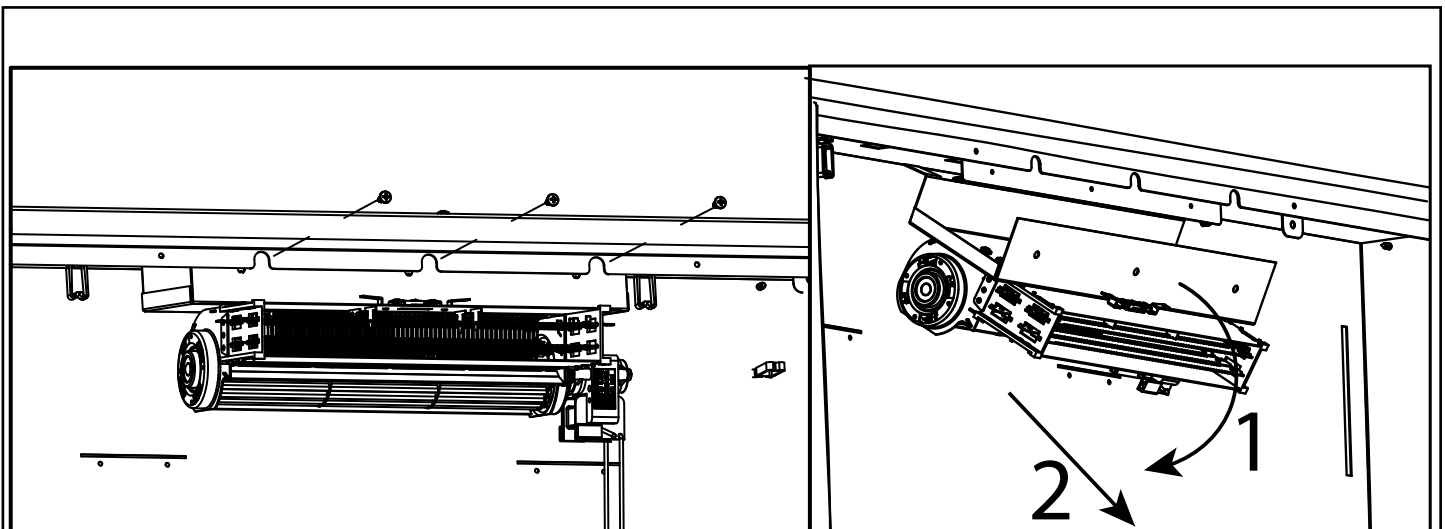
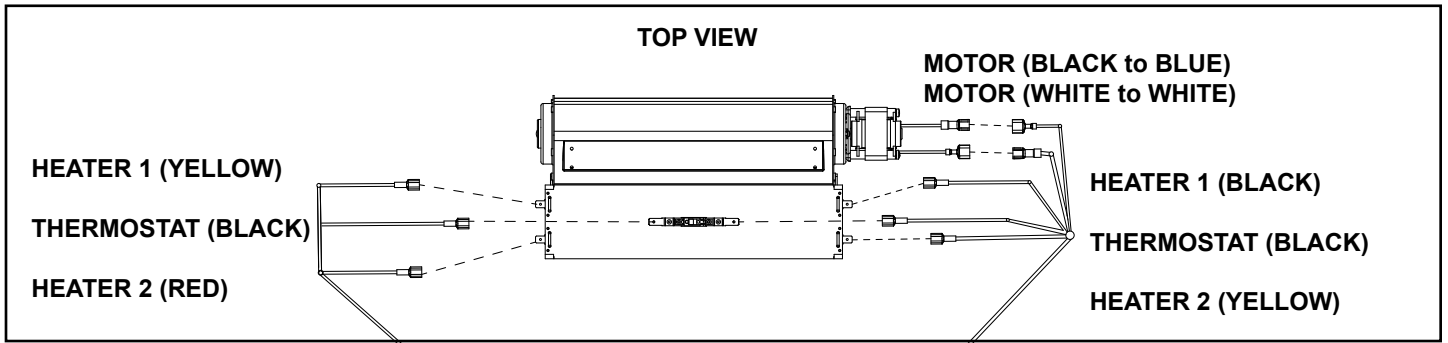

Figure 3.8 Heater / Blower / Assembly Removal
Figure 3.11 Blower / Heater Assembly Wiring
2. Make note or photograph the wiring labels and locations and harness routing. Disconnect all 8 Spade wire connections from the heater and Blower motor. See Figure 3.8 and Figure 3.11.
3. Support the Heater/Blower Assembly while removing the three Phillips screws from the front of the Heater/Blower Assembly mounting Bracket. See Figure 3.8.
4. Swing the front of the Heater/Blower Assembly downward then pull the assembly away from the appliance disengaging the mounting tabs from the appliance. See Figure 3.8.
6. Wire the new Heater/Blower harness by matching the wire labels with locations as noted and shown in Figure 3.11.
2. Make note or photograph the wiring labels and locations and harness routing. Disconnect all 8 spade wire connections from the Heater and Blower motor. See Figure 3.11.
4. Route and wire the new Heater/Blower harness by matching the wire labels with locations as noted and shown in Figure 3.11.